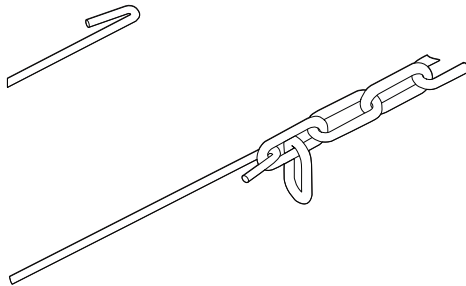

Figure 6. Tightest possible CLEERCHAIN link through open arm of CLEERBAIL
- One or two links may be free if using an Eaton Tee. More or fewer links may be needed if using competitor Tee. (Refer to **Figure 6**). Be sure any free links are hanging free as shown in **Figure 6**; not lodged between the bail hook and the hooked link.